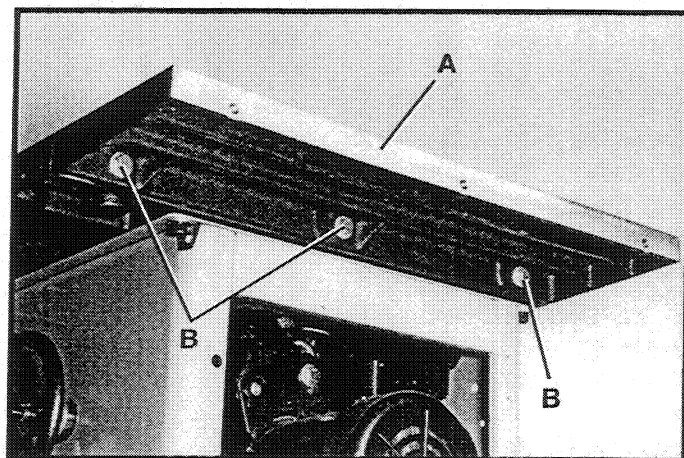
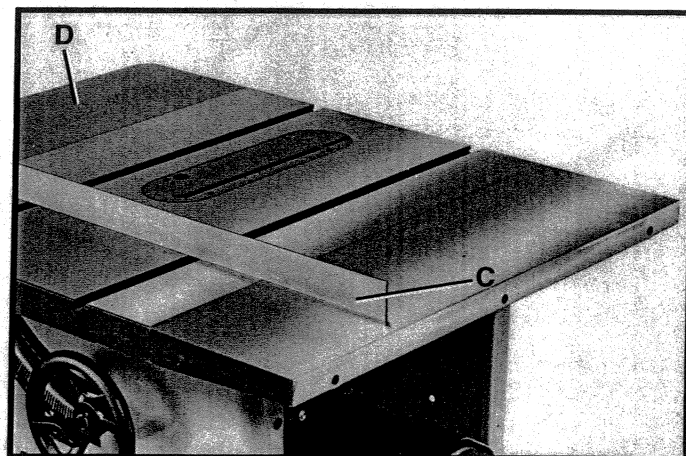

Fig. 8
Fig. 9
Assemble extension wing (A) Fig. 8, to the right hand side of the saw table using three 1-1/4 inch-long hex head screws (B) and flat washers supplied. Use a straight edge (C) Fig. 9, to make certain the extension wing is level with the saw table before tightening three screws (C) Fig. 8. **NOTE:** Make certain the left extension wing (D) is also level with saw table in the same manner.